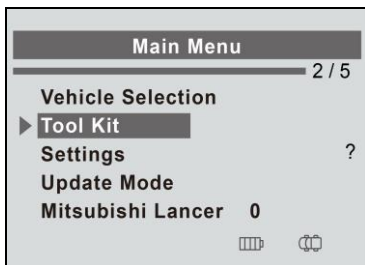

Figure 4.32
- 1) Use the **UP/DOWN SCROLL** button to select **Tool Kit** (Figure 4.32) from Main Menu, and press the **Y** button to confirm.